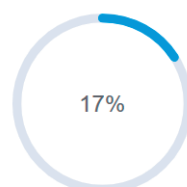

Fig.13
2. Wait for the restart progress bar to reach 100%. The restart process takes about 3 minutes. The NDI monitor will restart to complete. The login page is displayed immediately. See Figure 12 and Figure 13 below for details.